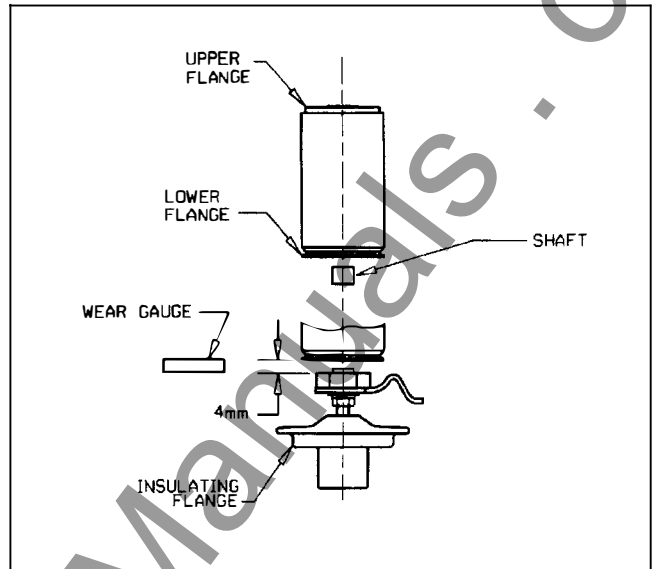

Figure 11. Vacuum Interrupter
2. Check the main contact wear in the vacuum interrupter, as shown in **figure 11**.